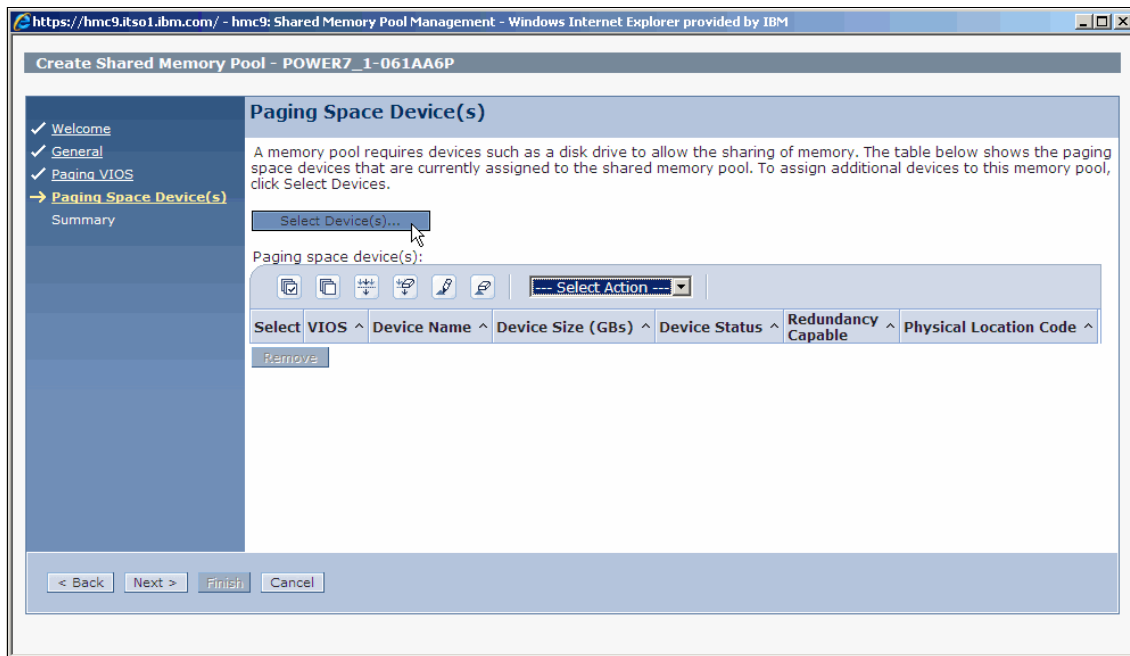

Figure 15-4 Selecting paging devices
5. Click **Select Devices**, as shown in Figure 15-4.